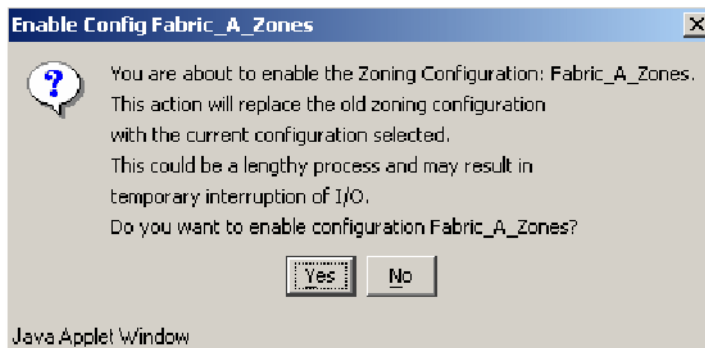

Figure 5-65 Enable Config warning
5. A warning dialog box will appear. Click **Yes** (see Figure 5-65).